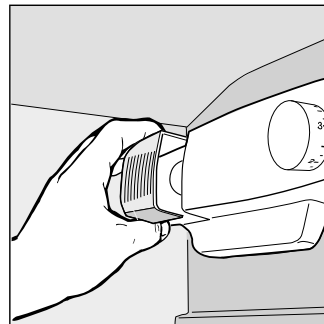

Fig. 3
- *Replacing the light bulb.* The bulb for lighting the interior of the refrigerator is located at the back of the thermostat box. When replacing the lamp, unplug the appliance from the electrical socket, unscrew the burned out lamp and replace it with another with a wattage no higher than 15W (fig. 3).